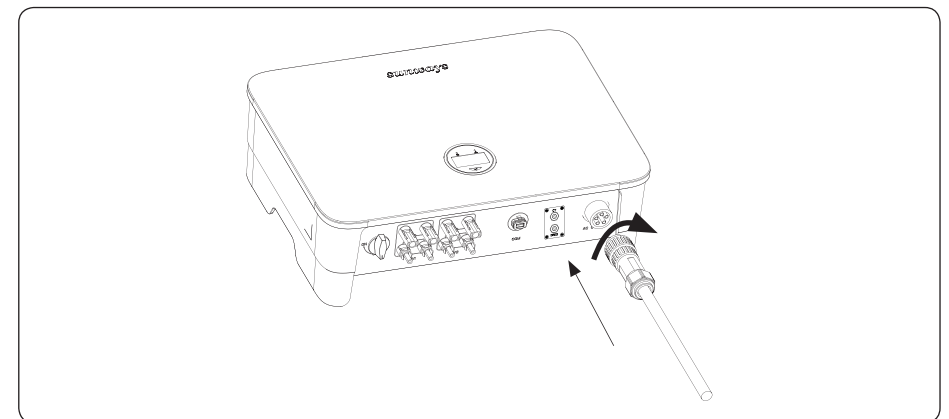

Figure 4-18 Connect the AC connector
5) Connect the AC connector to the inverter AC terminal, and rotate the AC connector buckle clockwise until its tight enough. As shown in figure 4-18: